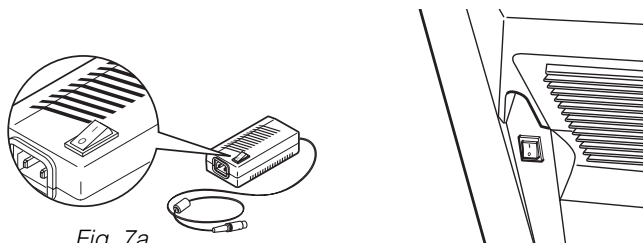
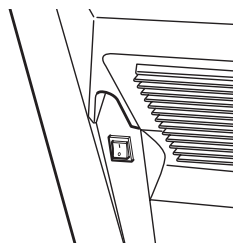

Fig. 7a
Fig. 7b
1) Set the two power switches to “I”; the DigiOptic™ Image Processor power switch is located on the external power supply unit (*Fig. 7a*), while the Display switch is on the rear panel (*Fig. 7b*).